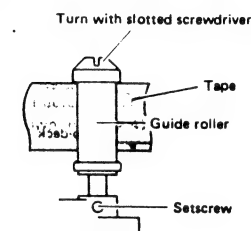

Fig. 2-34 Guide roller
4. Check the top edge of the tape travels along the lower face of the upper flange as shown in Fig. 2-34.